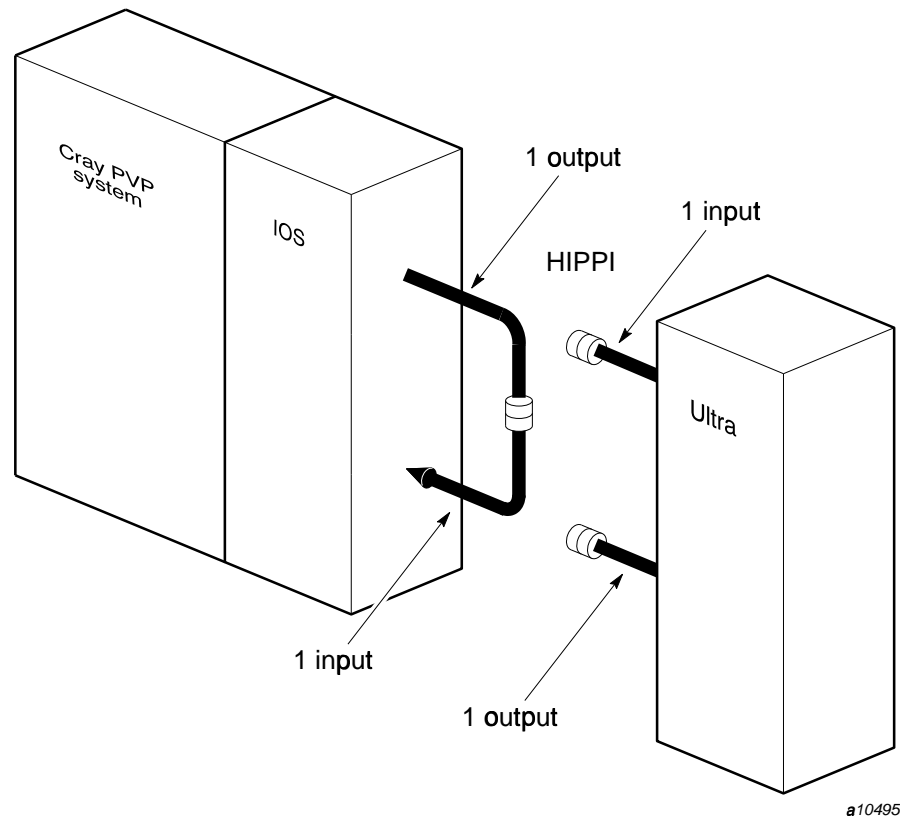
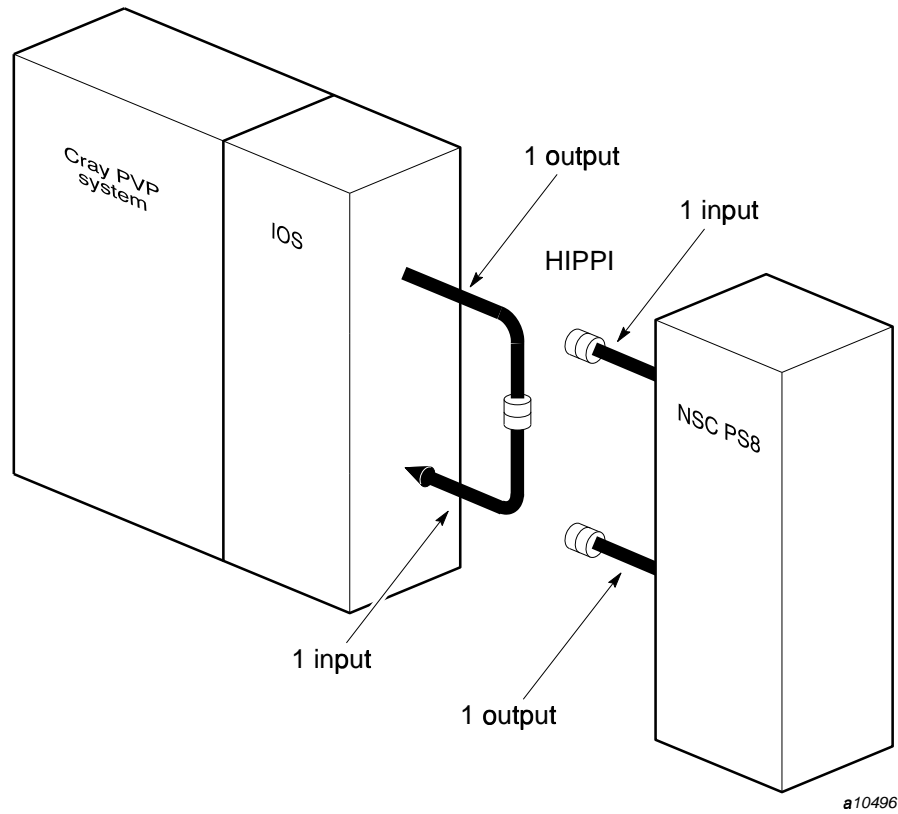
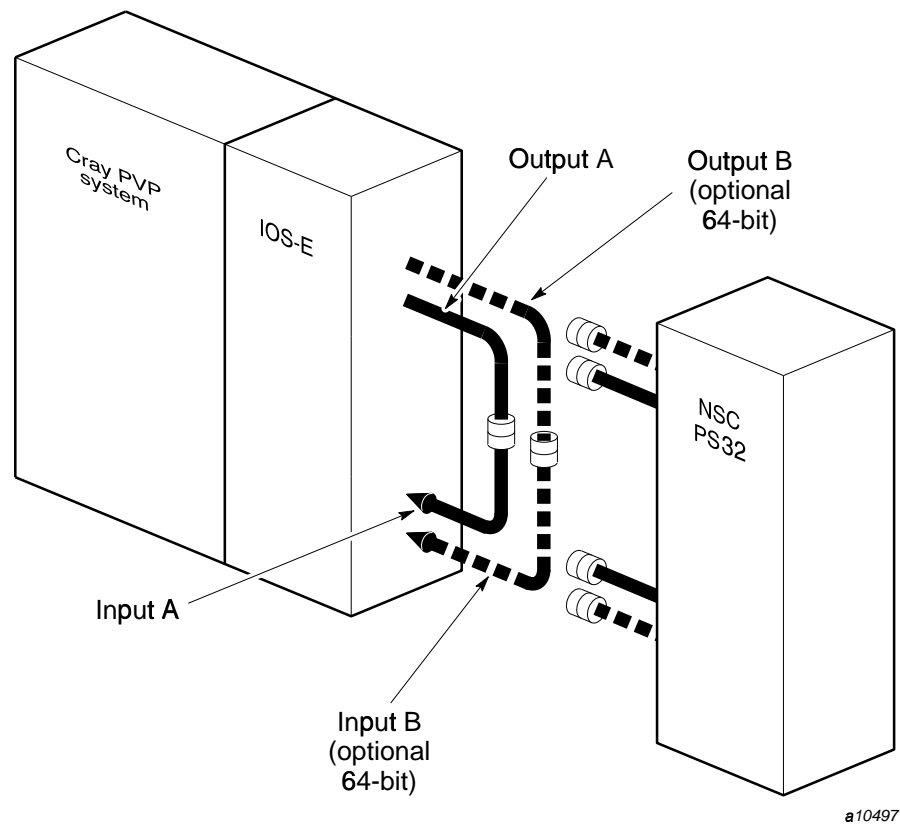

Figure 30. Cray PVP HIPPI cable loopback (Ultra)
Figure 31. Cray PVP HIPPI cable loopback (NSC PS8)
Figure 32. Cray PVP IOS-E HIPPI cable loopback, 32- or 64-bit (NSC PS32)
- Figure 30, Cray PVP HIPPI cable loopback (Ultra); Figure 31, Cray PVP HIPPI cable loopback (NSC PS8); and Figure 32, Cray PVP IOS-E HIPPI cable loopback, 32- or 64-bit (NSC PS32).
Software loopback testing can be performed if the HIPPI channels are connected to an NSC PS8 or NSC PS32 switch (see Figure 31, page 170, for PS8, or Figure 32, page 171, for PS32). The HIPPI I-field value selects the switch's port number. (See the description of IFLD in Section 5.4.4, page 160.) The subsequent HIPPI data packet is then routed to the selected port. If the I-field value is set to your switch's port number, the HIPPI data packets will be routed back to your system, thus providing a loopback test.